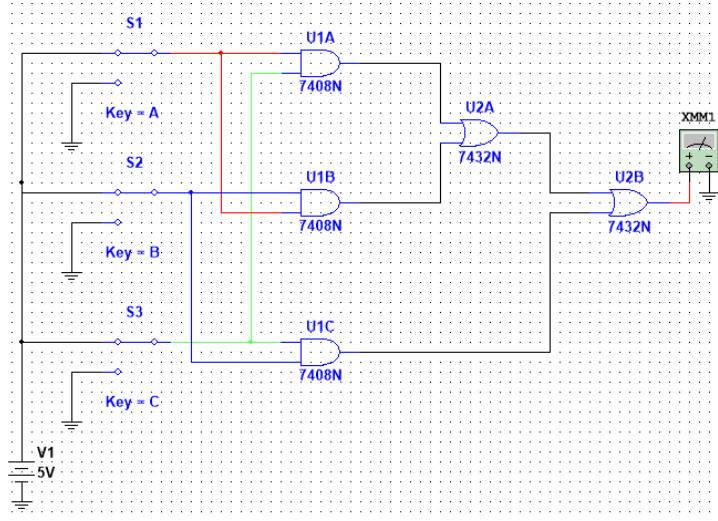

Figure 8.2: Lab # 8 Simulation
- Construct the circuit seen in Figure 8.2. Refer to Appendix A for more information on how to use logic gates.
Table 7: Truth Table for Figure 8.2